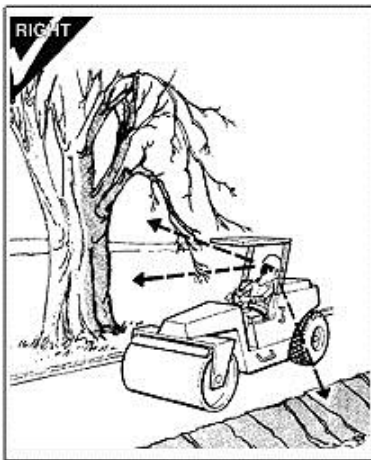

Figure. 1-11
- Avoid driving on road edges, trenches or places that could impair the stability of the machine. Please also be aware that wet and loose soils considerably affect the machine's load capacity. Always keep a sufficient distance when passing through under bridges, tunnels, electric power lines etc. (as shown in Figure. 1-11)